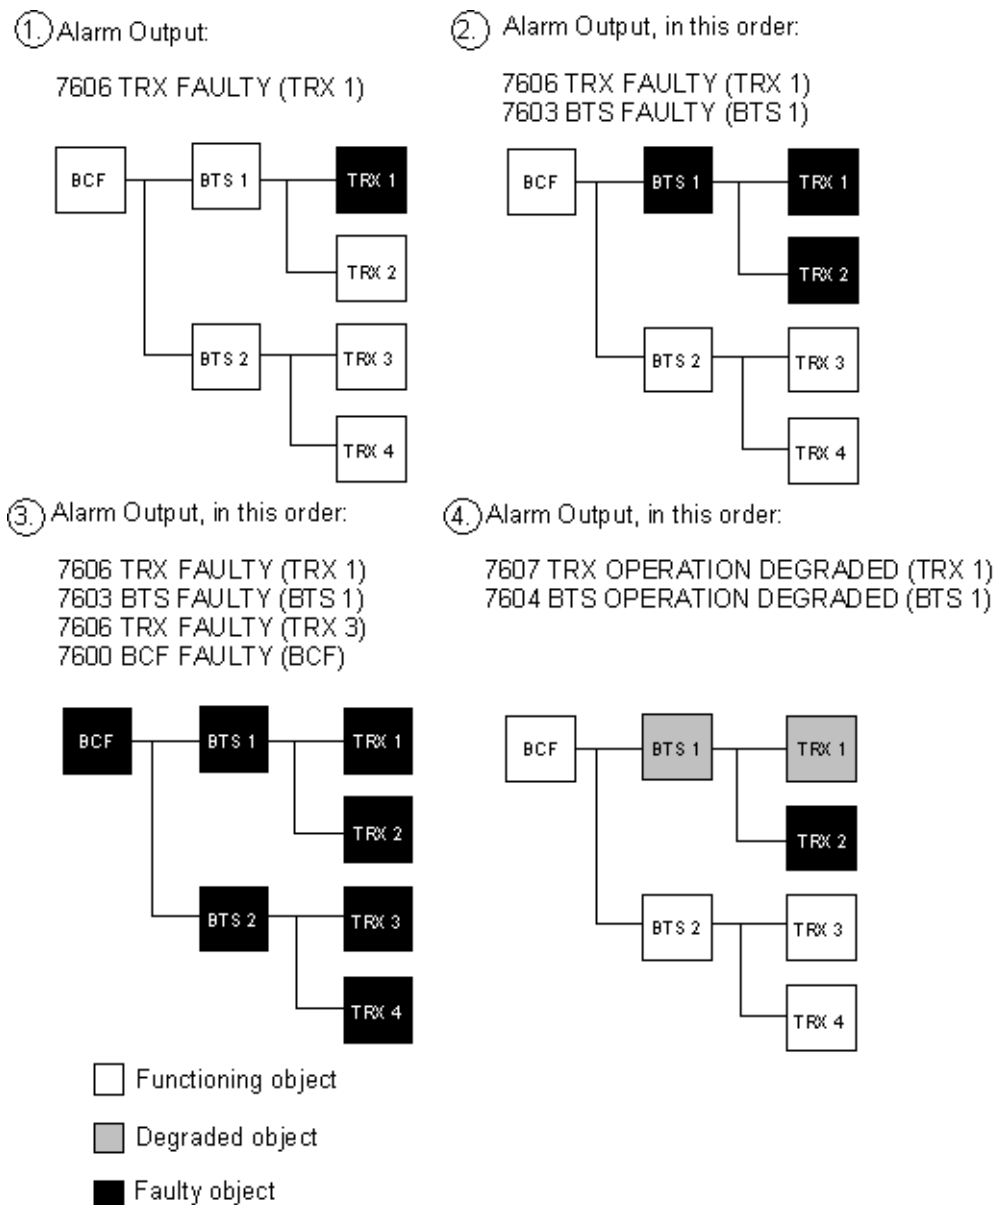

Figure 4. Faulty and degraded object alarm reclassification
- Figure 4. Faulty and degraded object alarm reclassification 15
In reclassification, the alarm handling detects which logical base station object is affected by a unit level fault. After reclassification, an object level alarm is issued according to a certain hierarchy, as described in Figure 4.
Alarm Output in Figure 4 shows the number and the name of the alarm(s) issued at the BSC in such a fault situation. Also, the object that is the alarm origin is given in brackets.